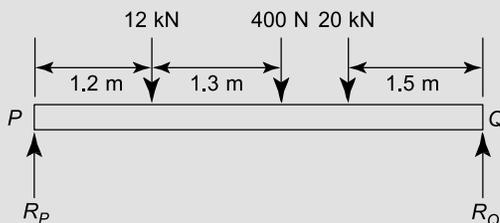

Figure 5.14
**Problem 9.** A beam  $PQ$  is 5.0 m long and is simply supported at its ends in a horizontal position as shown in Figure 5.14. Its mass is equivalent to a force of 400 N acting at its centre as shown. Point loads of 12 kN and 20 kN act on the beam in the positions shown. When the beam is in equilibrium, determine (a) the reactions of the supports,  $R_P$  and  $R_Q$ , and (b) the position to which the 12 kN load must be moved for the force on the supports to be equal.